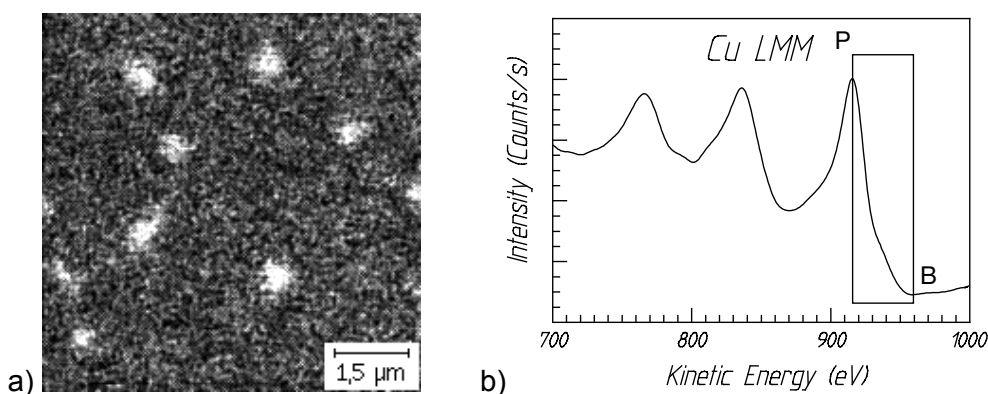

Figure 8. a) SAM-Cu (P-B)/B. b) Spectrum at position X1.
- In the Display Page draw a box reaching from the peak (P) to the background (B) of the spectrum curve using the mouse, see also figures 8 and 9.